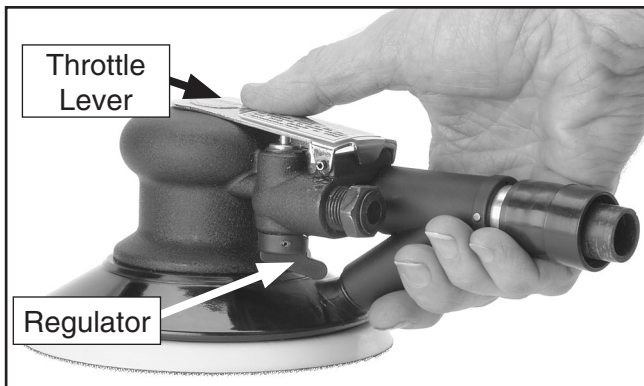

Figure 4. Sander controls.
2. Hold the sander and press the throttle lever (**Figure 4**) to turn the sander **ON**.
3. Turn the regulator (**Figure 4**) to adjust the sanding pad speed.